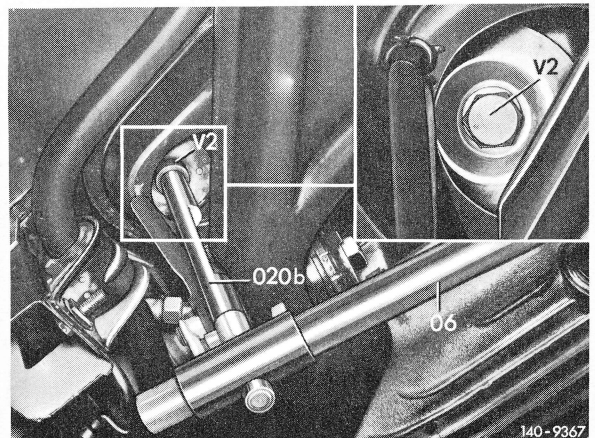

Fig. 10
**4** Measure distance "V2" from check bore "K" to hex. screw of front bearing in frame side member left and right with beam compass measuring length 1,500 mm (06) and measuring bolt with tip, length 237 mm (07c) (Fig. 10).